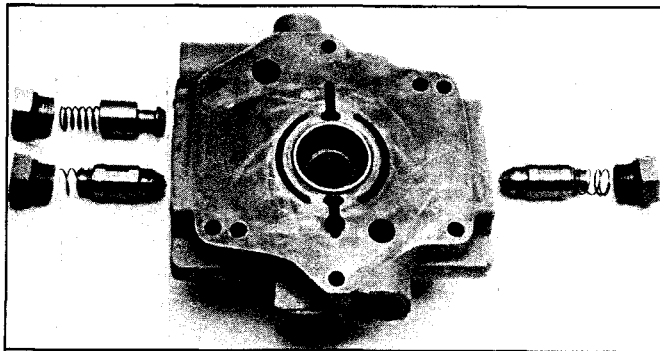

Figure 15. Exploded view of the valve block parts.
2. Install supercharge relief spring (48) behind the valve.
3. Assemble a new "O" ring (47) on plug (46), thread plug (46) into valve block (51) and torque to 128-148 lbf. ft., (174-201 N. m).
4. Assemble each cross line check valve into its appropriate valve block bore. Test cross line check valves (44) or (45) for bind as noted in step G. 1.
5. Assemble two cross line check valve springs (43) into valve block (51), (color coded green). See Figure 15.
6. Assemble a new "O" ring (42) on each of the two hex plugs (41) then thread the plugs into valve block (51). Torque plugs to 128-148 lbf. ft., (174-201 N. m).